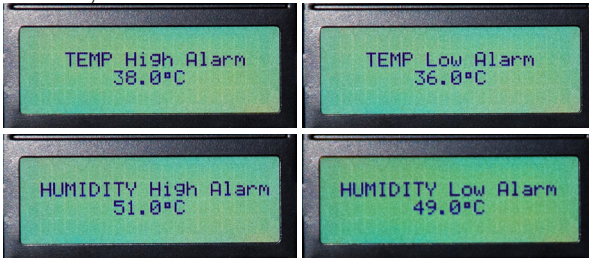

Fig. 17—Four alarm conditions can be defined from the configuration menu.
2. Press the **Config** button until the desired alarm appears (Fig. 17). Options include Temperature High Alarm, Temperature Low Alarm, Humidity High Alarm and Humidity Low Alarm.